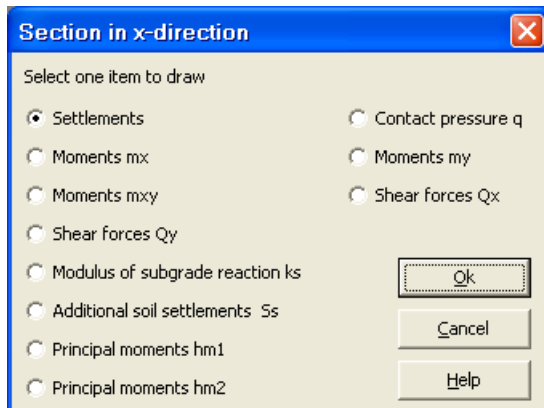

Figure 13-55 "Section in x -direction" option box
- Choose "Section in x -direction" command from "Sections" menu. The following option box in Figure 13-55 appears